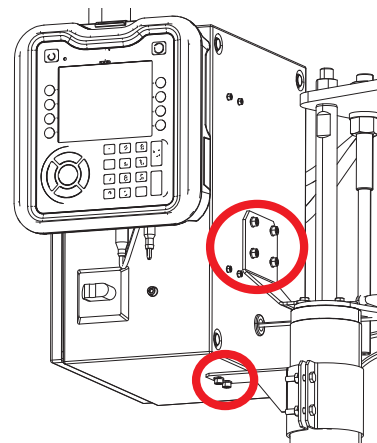

FIG. 44
4. Remove the screws and nuts from the bottom bracket and side bracket of the enclosure. See FIG. 44.